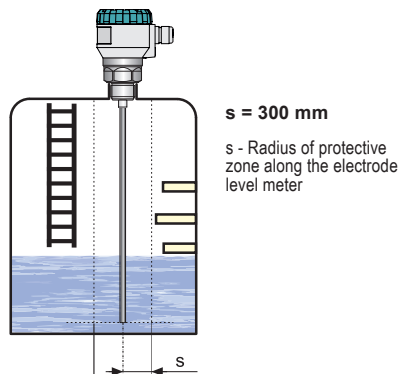

Fig. 12: Level meter installation outside obstacles in the tank
- The level meter generates electro-magnetic guided wave, which creates an electromagnetic field along the electrode. Objects placed close to the electrode disturb the electromagnetic field and thus affect the measurement. Therefore, it is determined protective zone along the electrode of radius 300 mm. The level meter is recommended to install the tank so that the items placed inside the tank (ladders, various partitions, mixers, etc.) does not intervene into the protective zone, see Fig. 12.